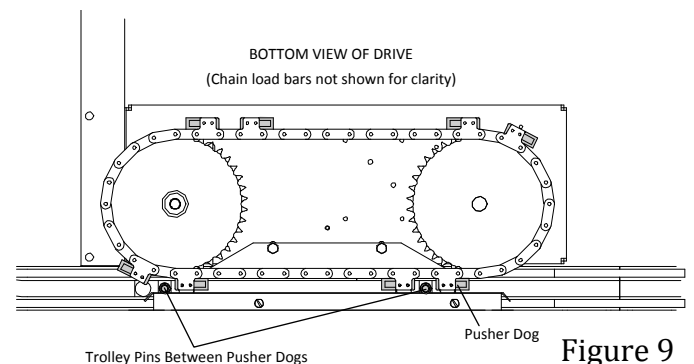

Figure 9
- c. Move track chain to align trolley pins with pairs of drive pusher dogs. Slide drive in to engage pins and contact track (see Figure 9).